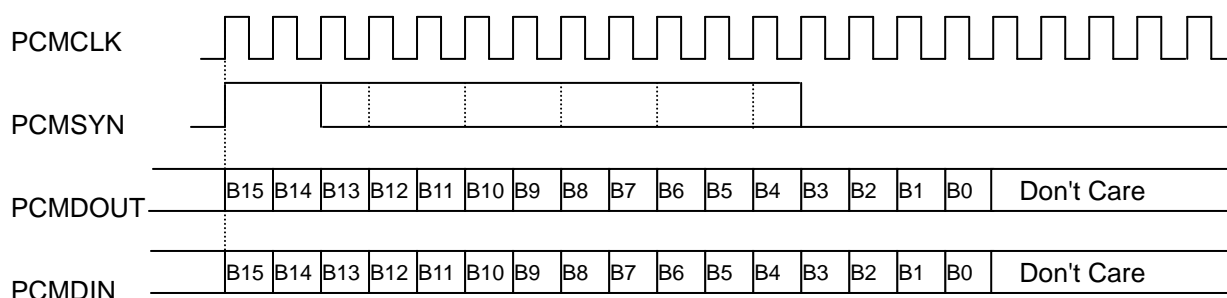

Figure 7-4 Long Frame SYN Timing (Shown with 16bit Sample)
**NOTE:** Figure 7-4 shows a PCM transfer with the MSB configured to be coincident with the PCMSYN.